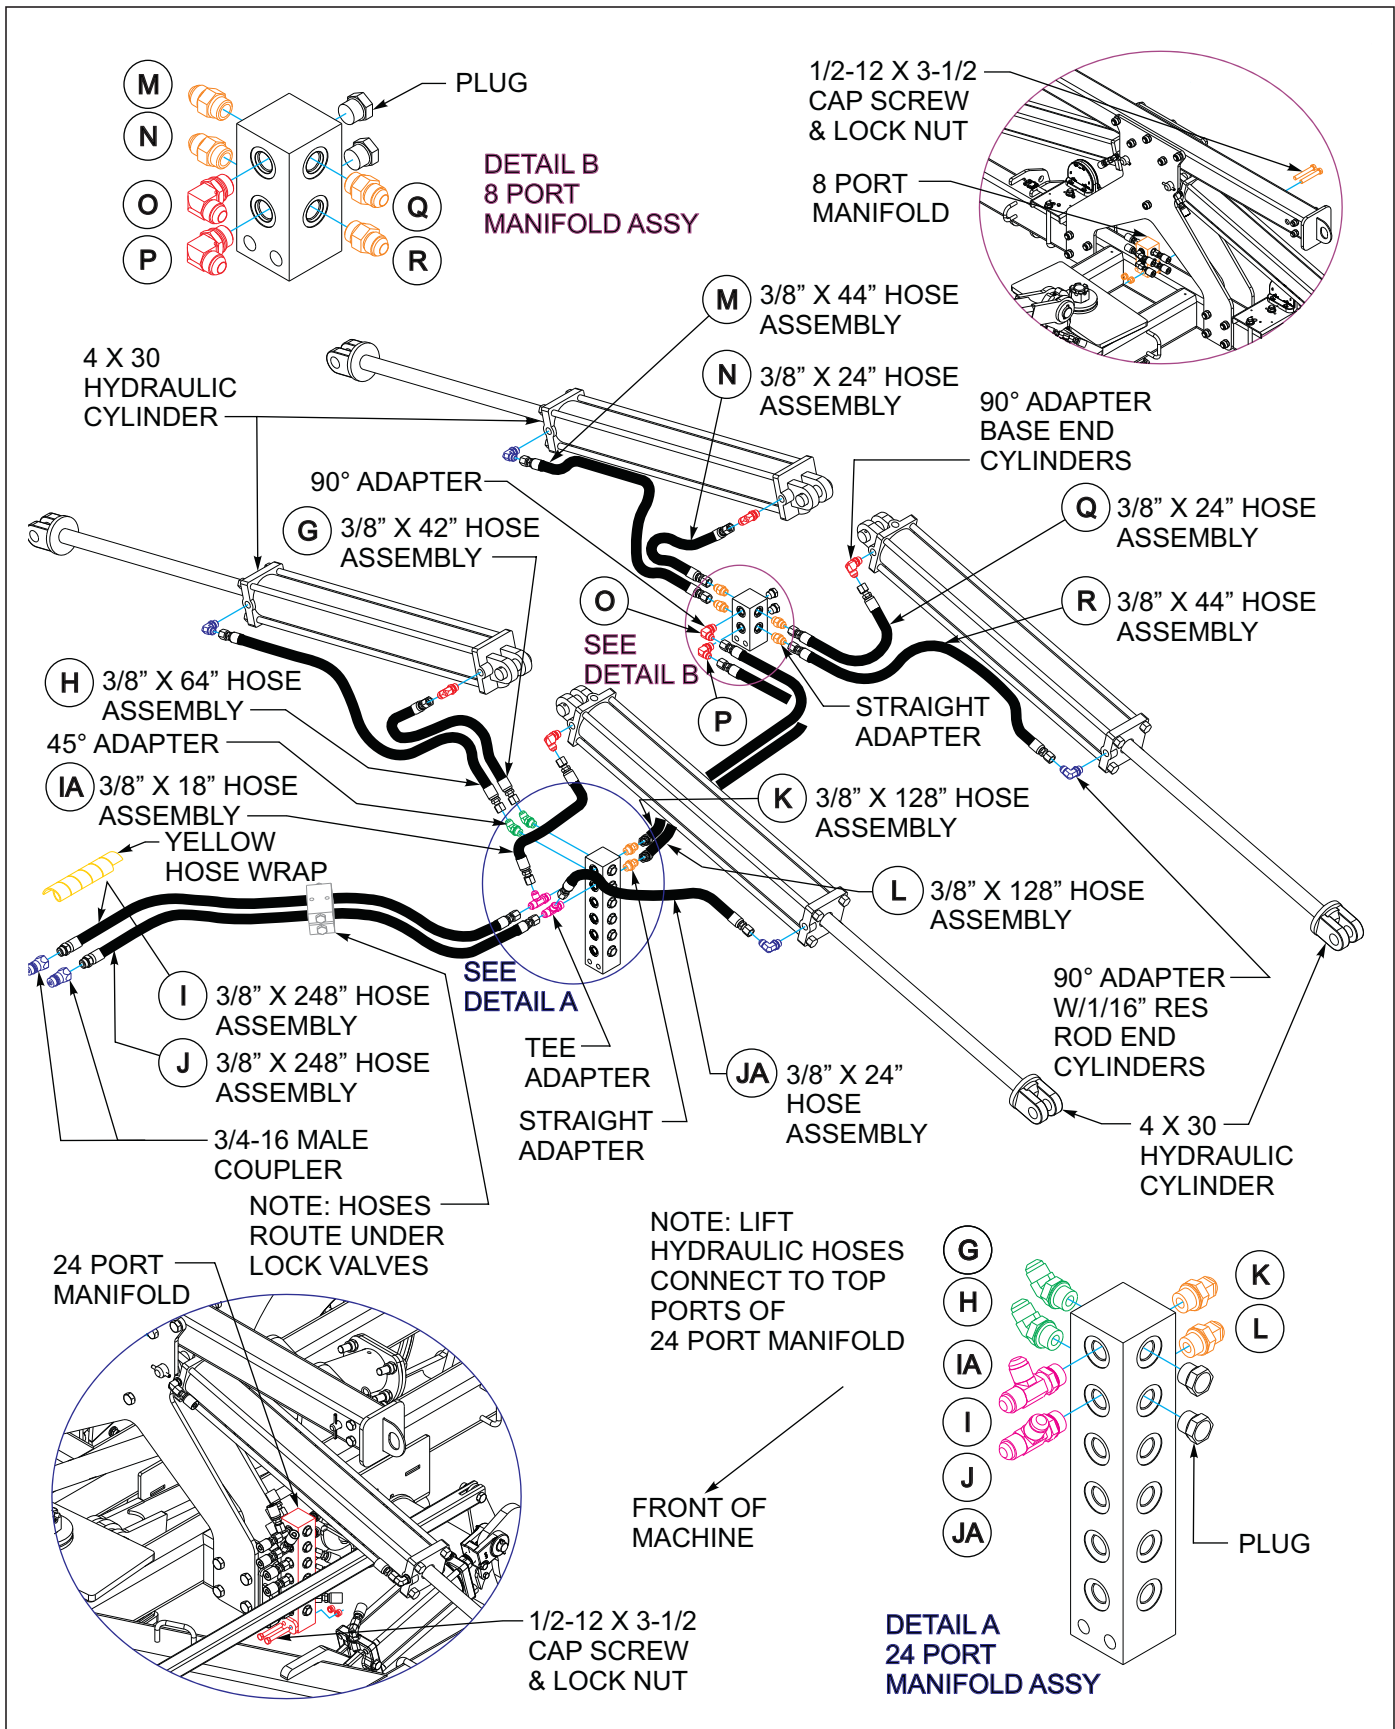
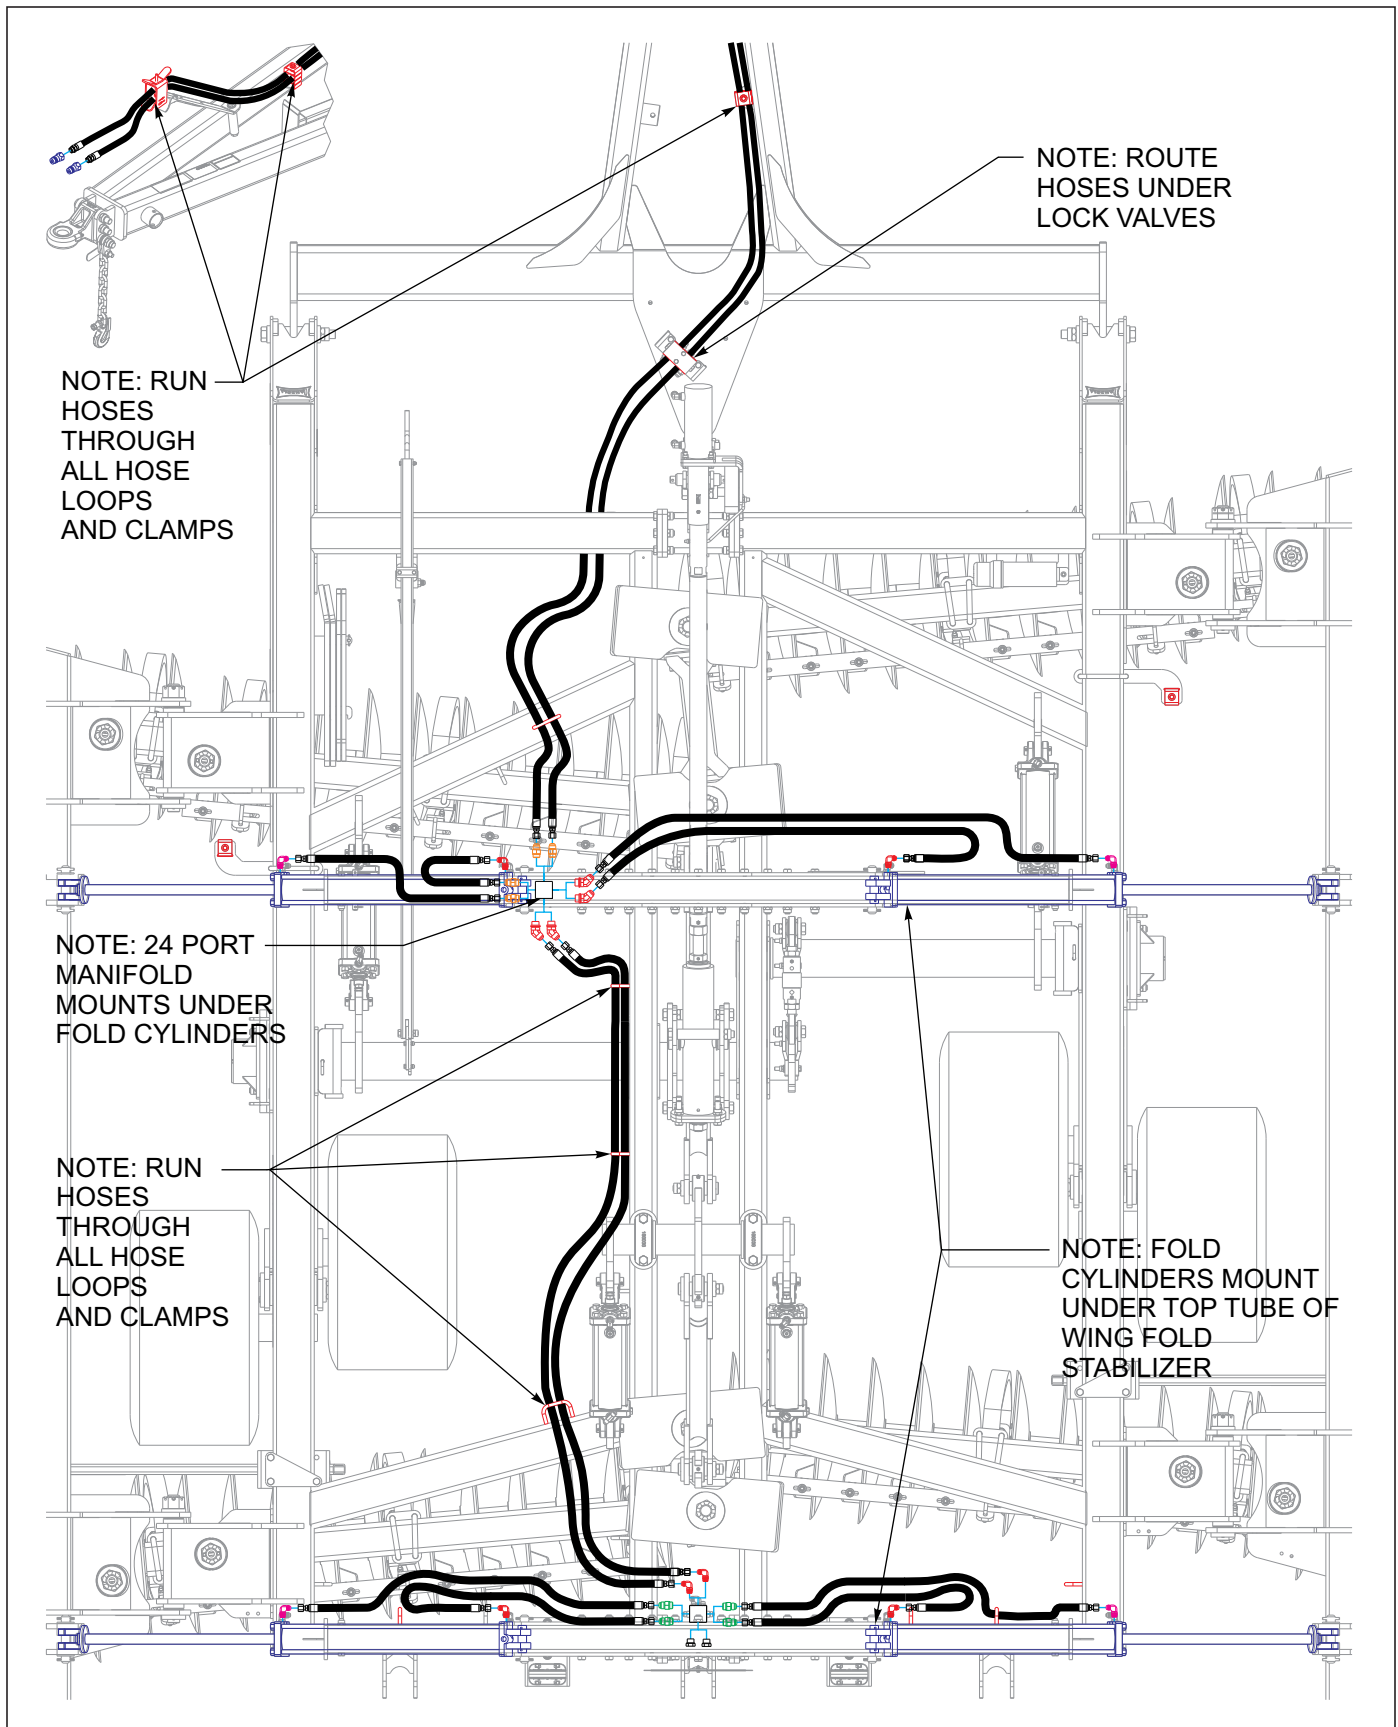

Figure 3-18: Fold Hydraulic Installation 7530-23'/26'/29'
Figure 3-21: 10Fold Hydraulic Layout 32'
Refer to Figures 3-18 - 3-21 for fold hydraulic diagrams for 7530-23'/26'/29' and 7530-32'/35' models.
1. Install the 24 and 8 port hydraulic manifolds at the center and rear of the center frame to the mounts welded to the frames (**See Figure 3-18. - 3-21**) using 1/2-13 x 3-1/2 hex bolts and 1/2-13 lock nuts. On the front manifold, the top two ports are for the fold system, the middle two are for the lift system, and the bottom two are for the adjustable gangs.
11. Install fold cylinder hoses and couplers (**See Figure 3-18. through See Figure 3-21.**) Wrap fold cylinder hoses with yellow hose wrap.